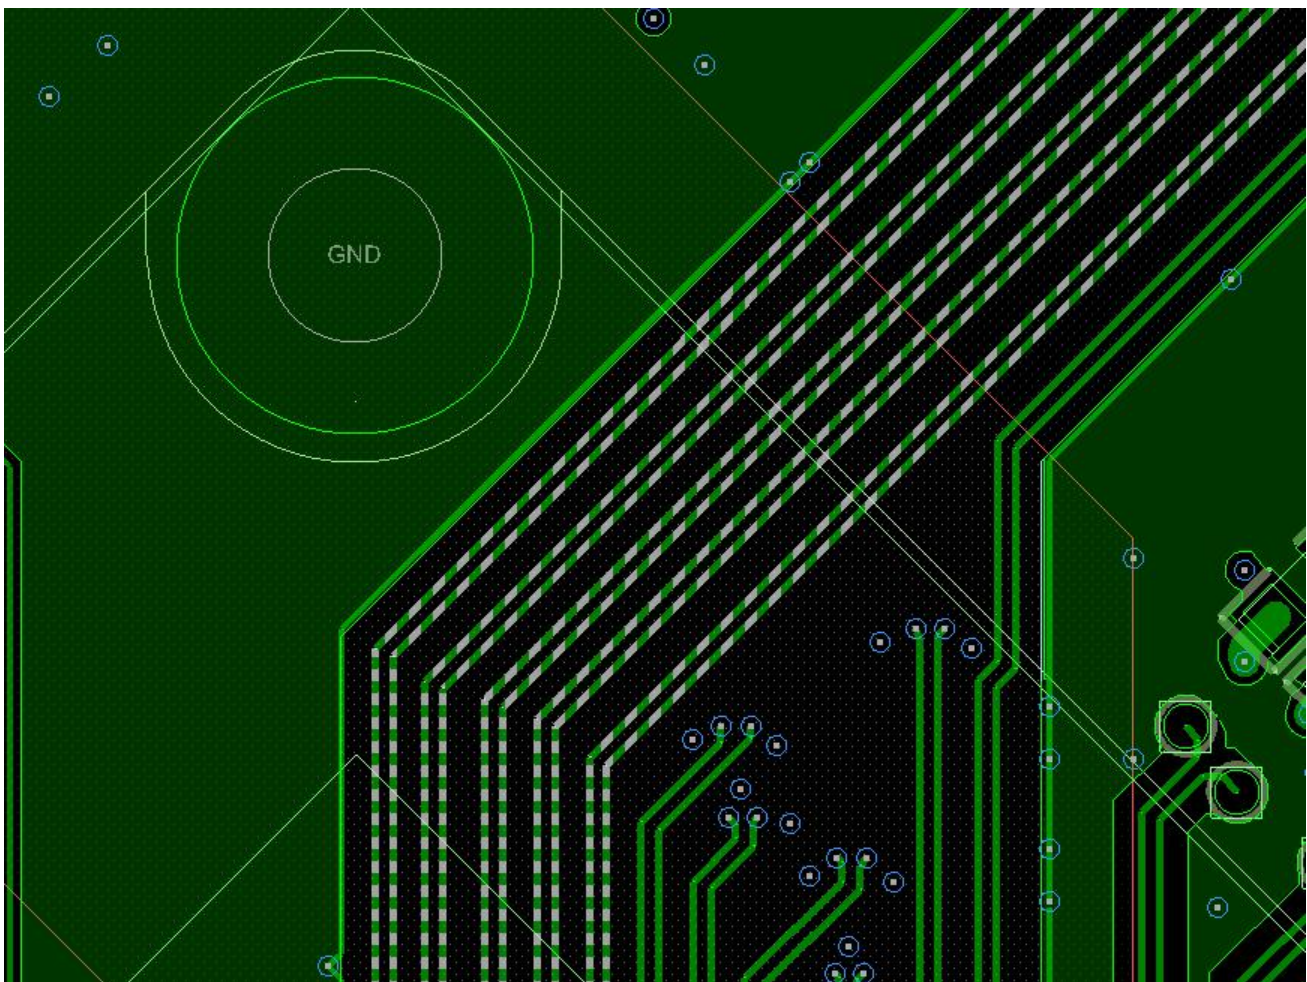

Figure 4-29 USB Signal Trace Shielding Requirements
- In order to suppress EMI, the USB signal trace is recommended to be placed inner layer and ensure the reference plane is continuous and complete, otherwise, it will cause discontinuities in the traces impedance and increase the external noise on them. If the differential pairs group is routed on the surface layer, it should be shielded by GND traces; there is no need the GND shield traces between the differential pairs. Shown as Figure 4-29.